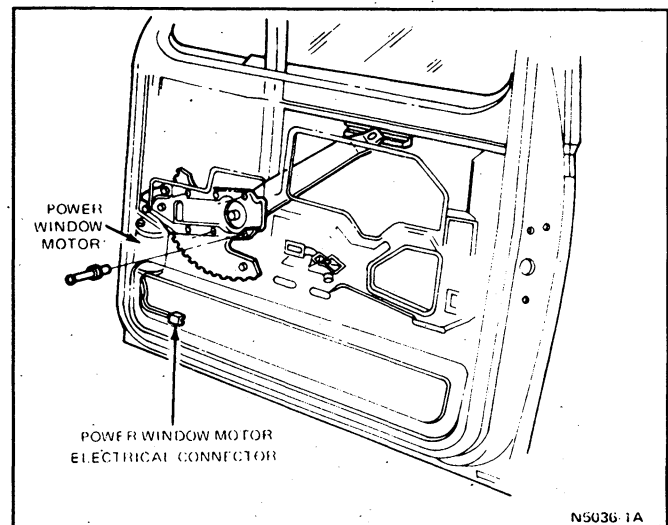

FIG. 10 Power Window Installation—F-Series and Bronco
3. Disconnect power window motor wire from wire harness connector (Fig. 10).
4. Check inside the door to ensure electrical wires are not in line with holes to be drilled in the door inner panel. Using a 12.7mm (1/2-inch) diameter drill bit, drill two holes in the door inner panel at the drill dimples located opposite the two unexposed motor drive retainer screws (Fig. 10).
5. Remove the three motor mount retainer screws using two drilled holes and existing larger hole access to screw heads (Fig. 10).
1. Install a new motor and drive assembly (Fig. 10). Tighten motor retaining screws to 5.6-9.6 N·m (50-85 in-lb).